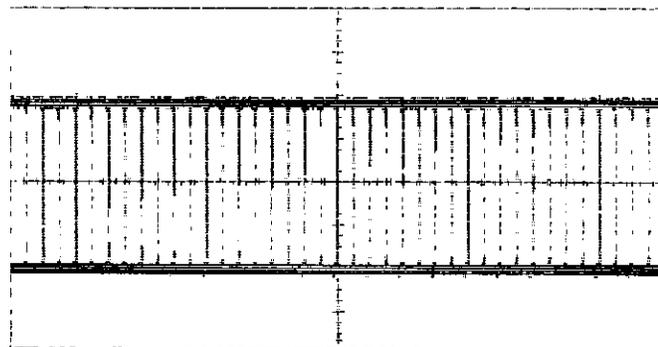

Figure 7-13. Auto Sweep Mode With Delay > 50 ms
*When Auto-Scale is pressed, the unit establishes itself in the Auto Sweep mode. If the trigger is delayed longer than approximately 50 ms, the Auto Sweep mode will cause the unit to sweep before the delay period has elapsed. The signal will appear untriggered (see figure 7-13). To eliminate this problem put the unit in the Trg'd mode.*